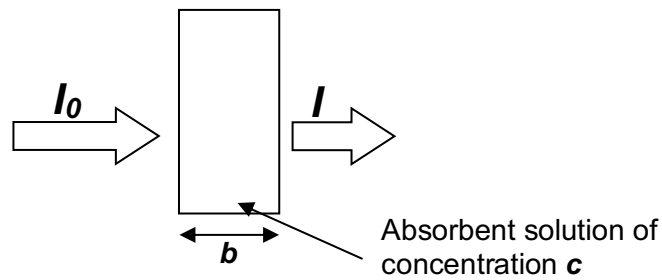

Figure 1.1: Attenuation of a beam by an absorbent solution
- **1 × plastic cuvette rack with 9 macro cuvettes** (b = 1 cm, see Figure 1.1)
To describe the absorbing properties of a chemical species, we use (as a fingerprint) its absorption spectrum, i.e. a graph of a function of the attenuation of a beam of radiation as a function of wavelength, frequency or wavenumber. Two terms are commonly used to measure this attenuation: **transmittance** (T) and **absorbance** (A). **Figure 1.1** provides a schematic representation of the fundamental parameters in the case of light absorption. A parallel beam of light passes through a layer of solution of **thickness** b and **concentration** c of an absorbing species. As a result of interactions between photons and absorbing particles, the **intensity** of the beam is attenuated from I_0 to I .
The **absorbance** A of monochromatic radiation is directly proportional to the absorption path length ("optical path length") b in the medium and the molar concentration c of the absorbing species (see **Figure 1.1**). The relationship is: